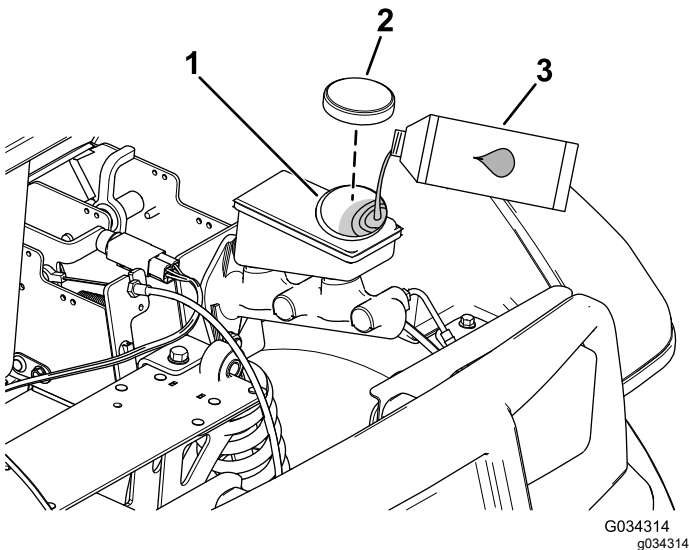

Figure 50
2. Raise the hood to gain access to the master-brake cylinder and reservoir (Figure 50).
- A. Clean the area around the reservoir cap and remove the cap (Figure 50).
- C. Install the reservoir cap (Figure 50).